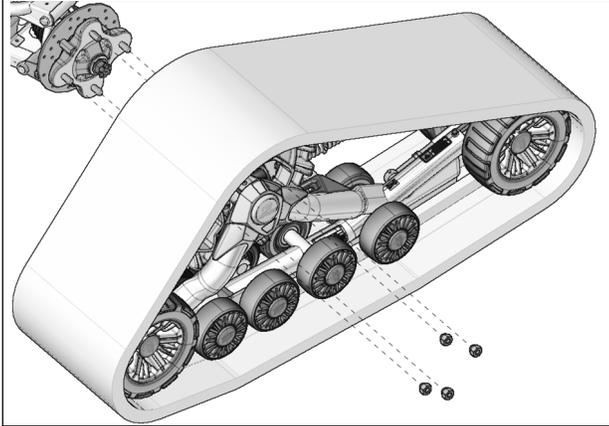

Fig. 11
10. Secure undercarriage to rear hub using the vehicle's wheel nuts. See Fig. 11
- Using the vehicle's wheel nuts, secure undercarriages to front wheel hubs. The procedure and precautions are the same as for rear units. Refer to Fig. 11